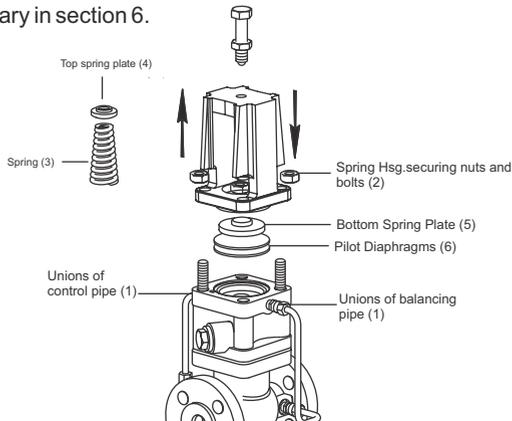

Figure 16: Replacing/ Maintaining Pilot valve diaphragm
7.8 Procedure to renew the pilot valve diaphragms: (FMPRV41 Steam/Air) (Refer to Figure 16)